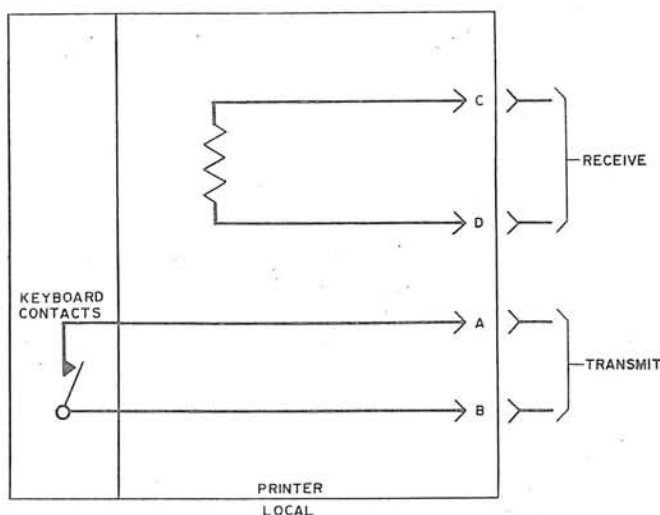

Figure 2-9. On-Line (Low level, Mode 2)
b. MODE 2 - ON-LOW (On-line, low level mode). - On-line (low level) mode is full-duplex operation (see Figure 2-9) and means that communications can be carried on between two points in both directions simultaneously. Low level signal loop current (2.5 to 10 ma) is to be supplied externally for both send and receive signal lines. Position the mode switch (8, Figure 2-1) so that the notch is pointing toward number 2 (center position).
c. MODE 3 - ON-HIGH (On-line, high level mode). - On-line (high level) mode of operation is full-duplex, (see Figure 2-9) meaning that communications can be carried on between two points in both directions simultaneously. High level signal loop current (20 to 80 ma) is to be supplied externally for both send and receive signal lines. Position the mode switch (8, Figure 2-1) so that the notch is pointing toward number 3 (extreme clockwise position).